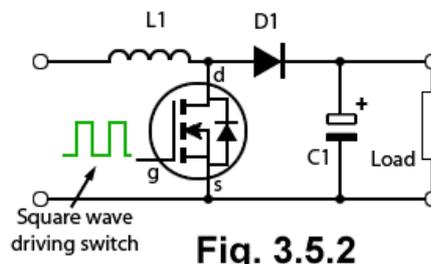

Fig. 3.5.2
**What type of circuit is illustrated in Fig 3.5.2?**